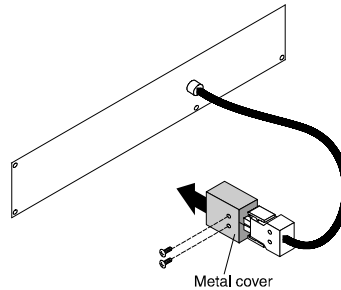

Figure 18. Removing the EBM Power Cord Cover
1. Remove the two screws from the metal cover that protects the end of the EBM power cord. Remove the metal cover. See Figure 18.